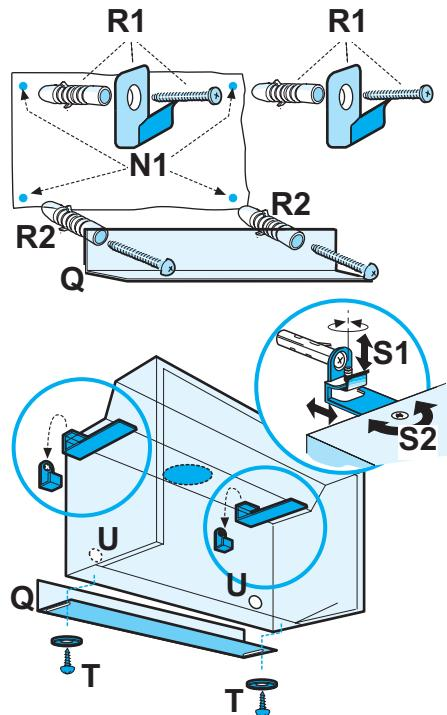

Fig. 14
- Use the drill holes diagram N1, drill as indicated, insert two hooks in the upper drill holes (**Fig. 14,R1**) and two dowels in the lower drill holes (**Fig. 14,R2**).
- Hang the cooker hood on the wall, regulate the position of the cooker hood (**Fig. 14** - screws S1 for vertical regulation, screws S2 for depth regulation)
- Place connection ring and discharge pipe (or deflector if supplied) to the cooker hood outlet (see “Use” section), fasten the cooker hood to the lower bracket (**Fig. 12-14,Q**) with two screws and plastic washers (**Fig. 14,T**).
- Access to the screws that secure the lower bracket may be through the drill holes located inside the cooker hood (**Fig. 14,U**).